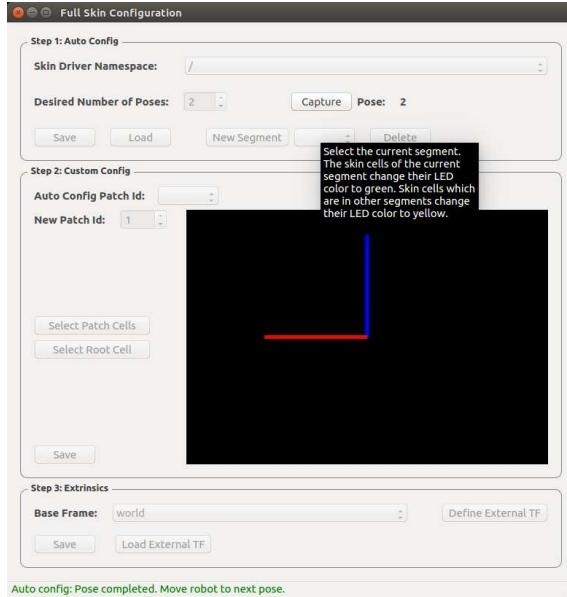

Figure 7.2: Step 1.2
2. Put the skin in the first pose, and press “Capture”, see Fig. 7.2.